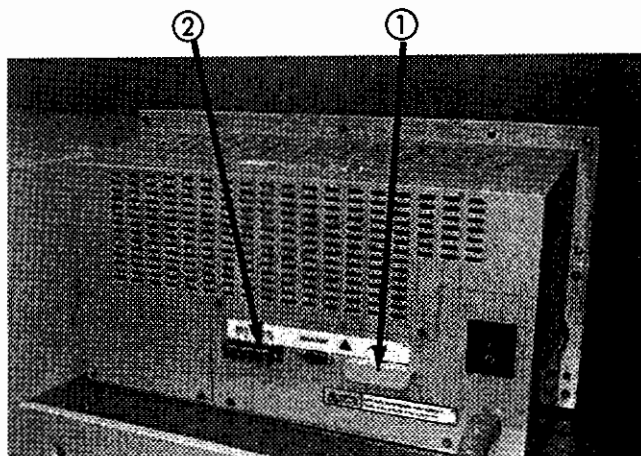

Figure 5-3
A printer can connect to the VIP 5 instrument ① (Figure 5-3). Once installed, the printer will provide a hard-copy printout of the program being used and any errors that occur, as well as several other screens.
An Uninterruptible Power Supply can be connected to the UPS Connector ② (Figure 5-3) on the rear of the VIP 5. (Note that the UPS connector is a signal connector only.) The UPS unit supplies power to the VIP 5 in case of power outage occurrence.